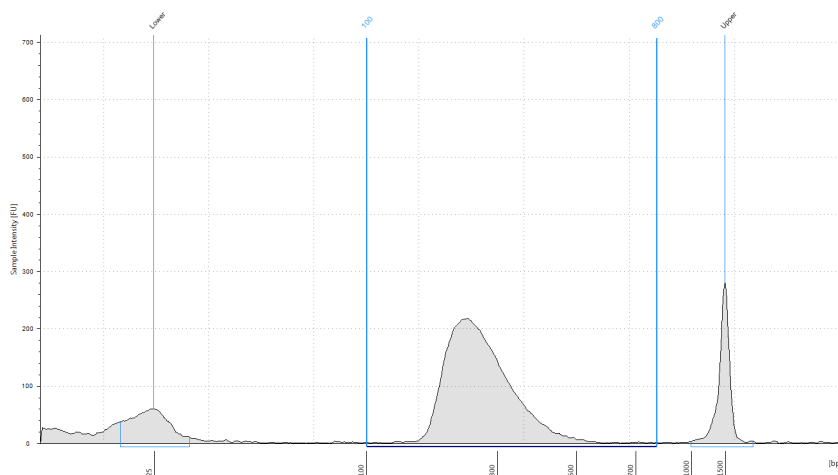

Figure 21 Analysis of indexed DNA using a High Sensitivity D1000 ScreenTape.
- 5 Verify that the electropherogram shows the peak of DNA fragment size positioned between 250 to 350 bp. A sample electropherogram is shown in **Figure 21**.